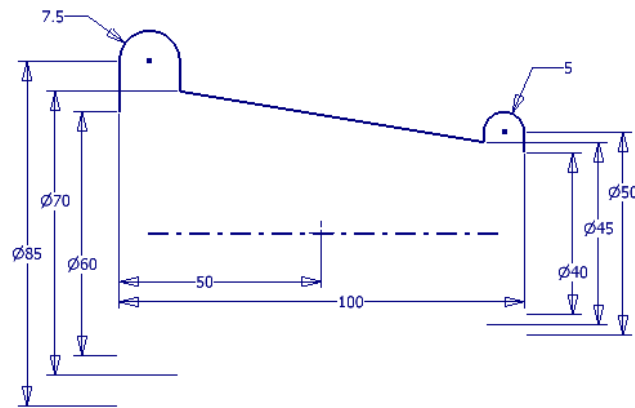

Figure 18-52 Fully constrained sketch for the base surface
- a. Open a new part file and then create the sketch shown in Figure 18-52 on the default XZ plane.
2. Draw the sketch on the XZ plane, as shown in Figure 18-52. Constrain the sketch fully by specifying dimensions and geometric constraints.